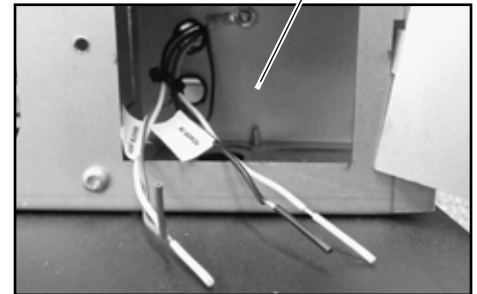
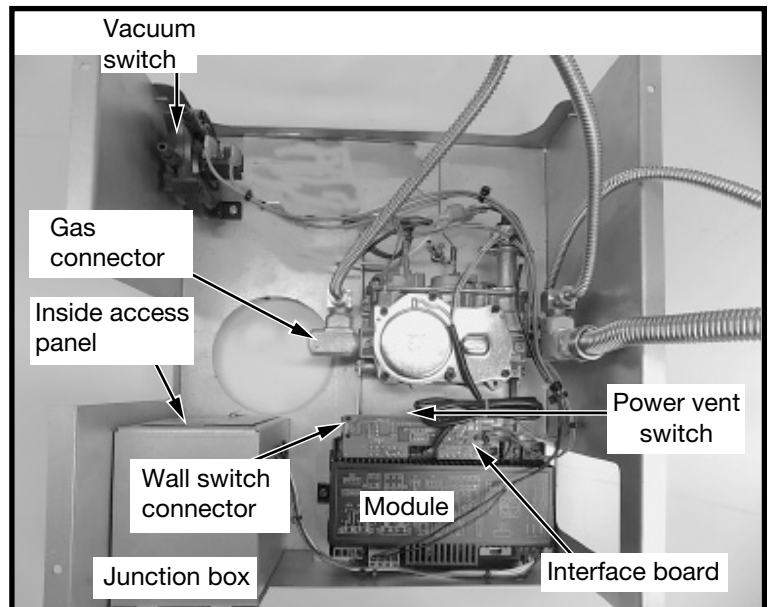
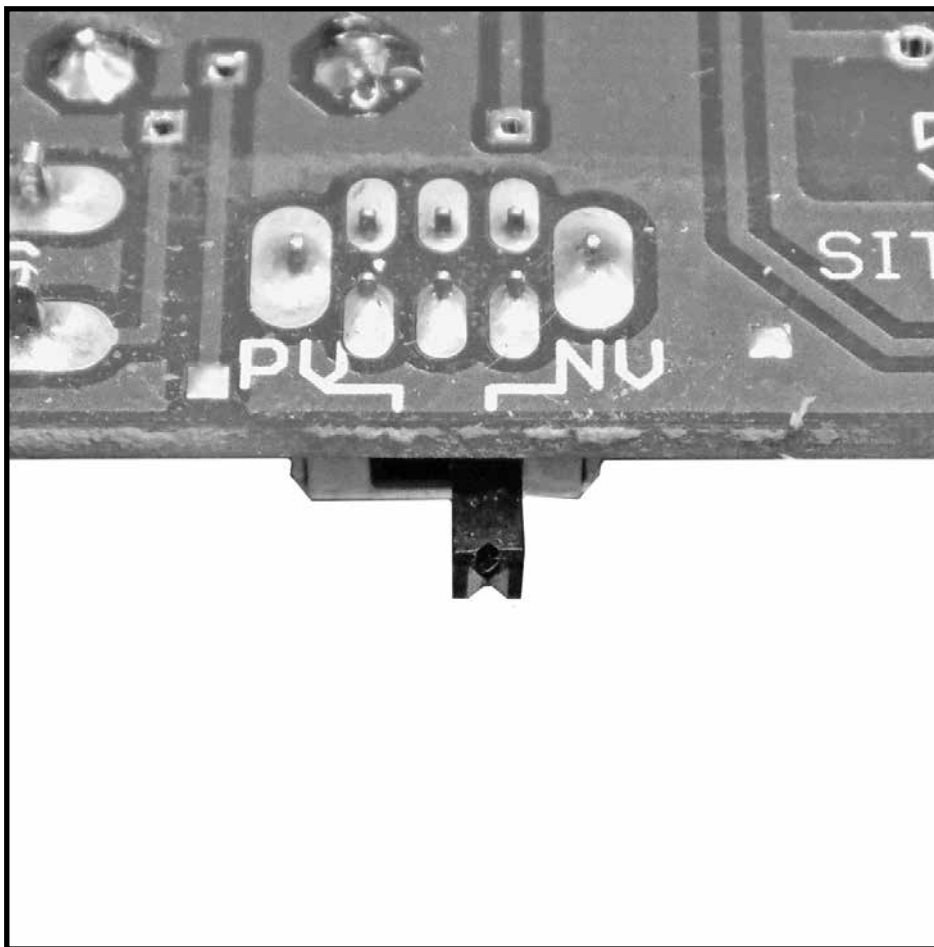

Figure 25: Junction box wiring
Figure 26: Valve assembly components
Figure 31: Vent mode selection switch.
4. Connect 110 V. AC electrical supply to the wires installed inside the junction box (Figure 25). The fireplace is rated at 110 volts, 60Hz, 0.25A. The optional power vent kit is rated at 115 volts, 60Hz, 1.8A.
The electrical wires can be accessed from both inside and outside the junction box by removing one of the two small access panels (Figure 25 and Figure 26).
7. Attach one end of the wall switch control cable to the wall control (Figure 28), and the other end to the interface board (Figure 26).
The NV / PV (Natural Vent / Power Vent) switch (Figure 31) on the interface board (Figure 26) is set according to which type of evacuating vent system is present. If the fireplace is vented without the assistance of a power vent, the switch must be set to “NV”. If using a power vent, “PV” must be selected.
1. Connect the gas supply to the valve (Figure 26).